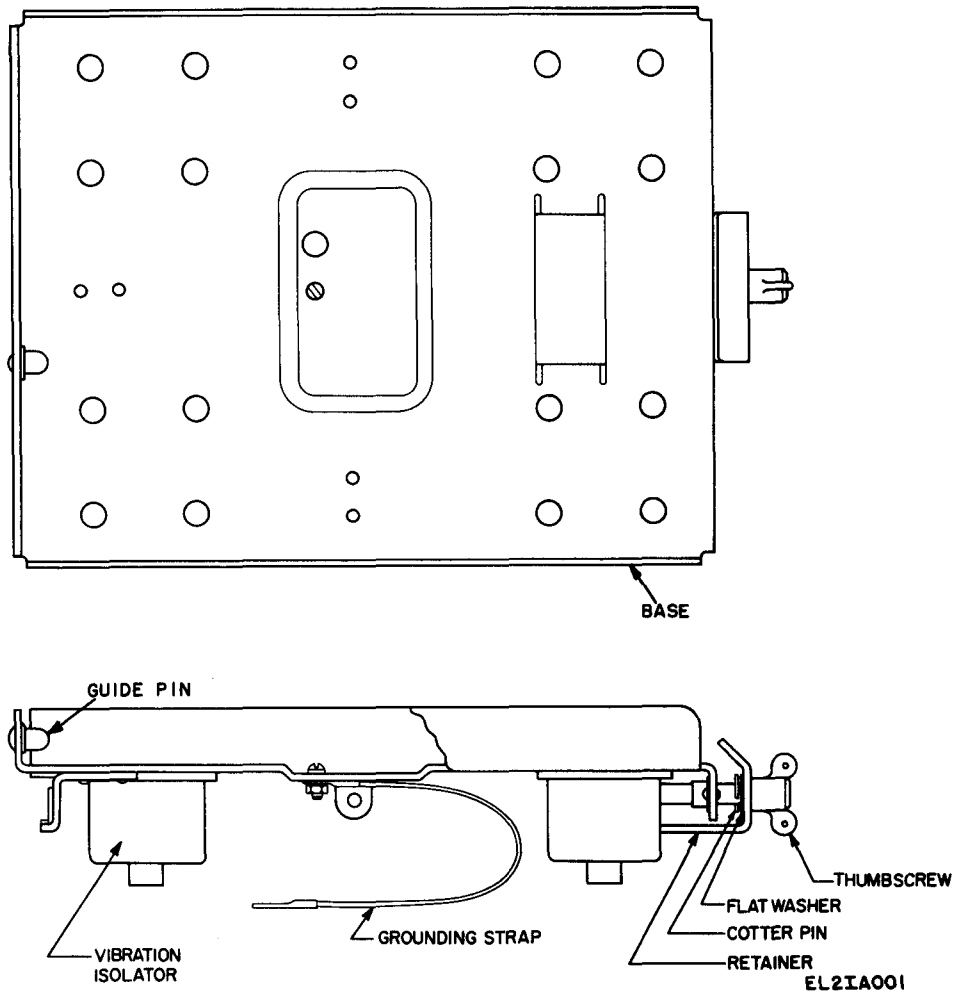

Figure 2-1. Shock mount parts location
c. *Vehicle Mount Disassembly and Reassembly* (fig. 2-1).